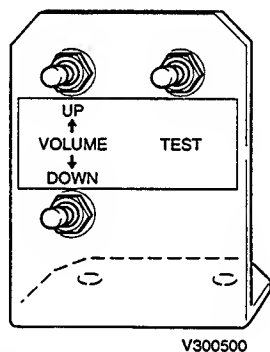

Figure 6: Test Bracket
20. An optional Test/Volume bracket (see Figure 6) is available through your local Capcom distributor (part number 03-0050). Your cabinet may already contain this bracket. When installing, the bracket should be mounted inside the coin door and on top of the cashbox for easy access.